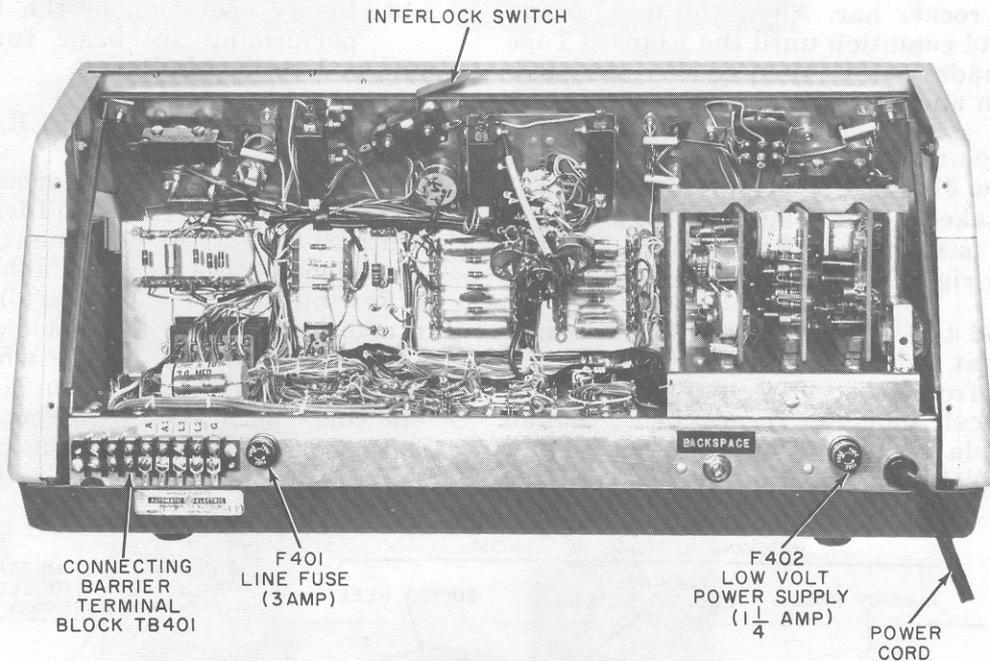

Figure 2. Model RFP (Rear view - back panel removed).
- 2.04 Remove the four Phillips head fastening screws holding the back panel to the cabinet, remove back panel (see Figure 2) to gain access to the terminal block.
green (tip) to L2, and yellow (ground) to G. (See Figure 2.) Secure the cable clamp and replace the back panel.
2.07 For 10A1 and 10A2 (or 1A1) key system installations, connect the A and A1 terminals on the connecting block TB401 to the A and A1 terminals on the telephone block (see Figure 2).